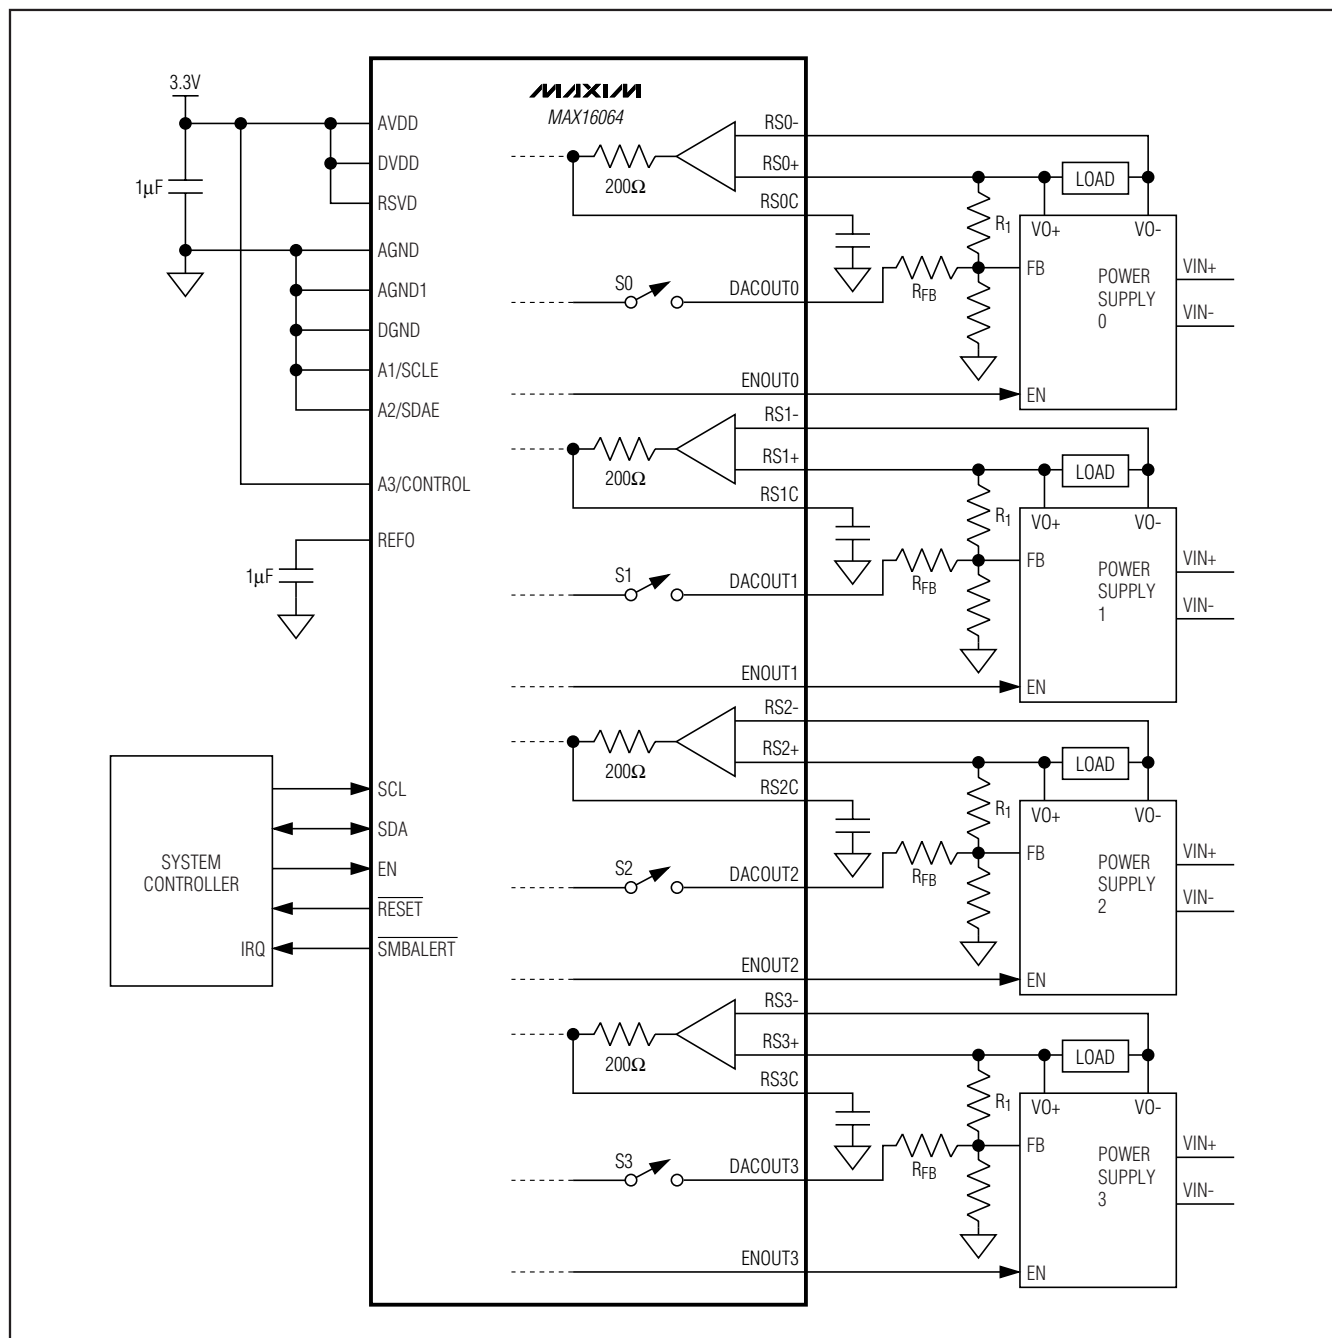

Figure 5. Typical System Application—Feedback Mode
Some power-supply converters do not provide a reference input. In these applications, the feedback node can be used instead. Connect a DACOUT_ output of the MAX16064 to the feedback node (FB) through a resistor RFB as shown in Figure 5. In steady-state operation, the MAX16064 controls the power-supply voltage as measured between RS_+ and RS_- to $\pm 0.3\%$ accuracy by adjusting DACOUT_ 1 LSB at a time (0.5mV), up and down as required. This mode of operation is termed FB mode. Since the MAX16064 does not have control over the power-supply error-amplifier reference voltage, this mode relies on the power-supply soft-start setting to implement the required soft-start time.